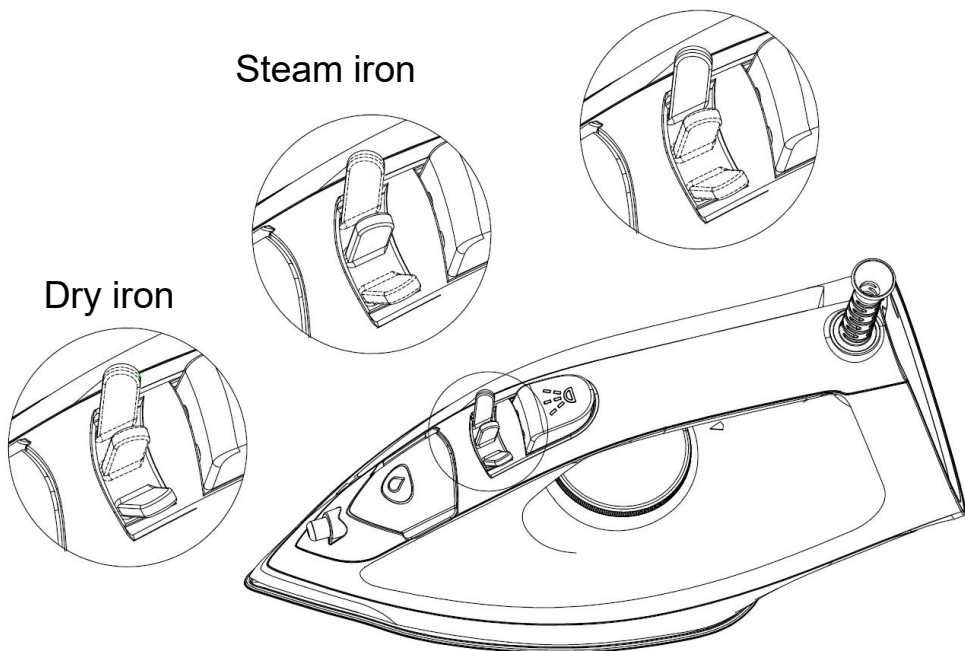

Fig.5
4. Select the desired function by the Steam knob according to your demand (see Fig.5). Turn the Steam knob to the “Steam iron” setting, the iron will keep releasing steam. If you need to activate the dry iron mode, turn the steam knob to the “Dry iron” setting.